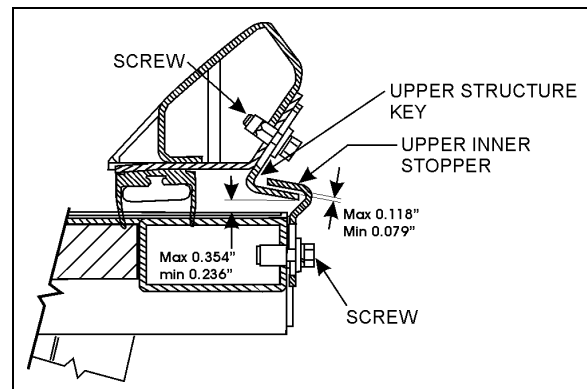

FIGURE 4: UPPER INNER STOPPERS ADJUSTMENT
2. Adjust the upper structure key and the upper inner stoppers according to FIGURE 4 with the seal deflated. When inflating, the seal presses the roof structure upward and at